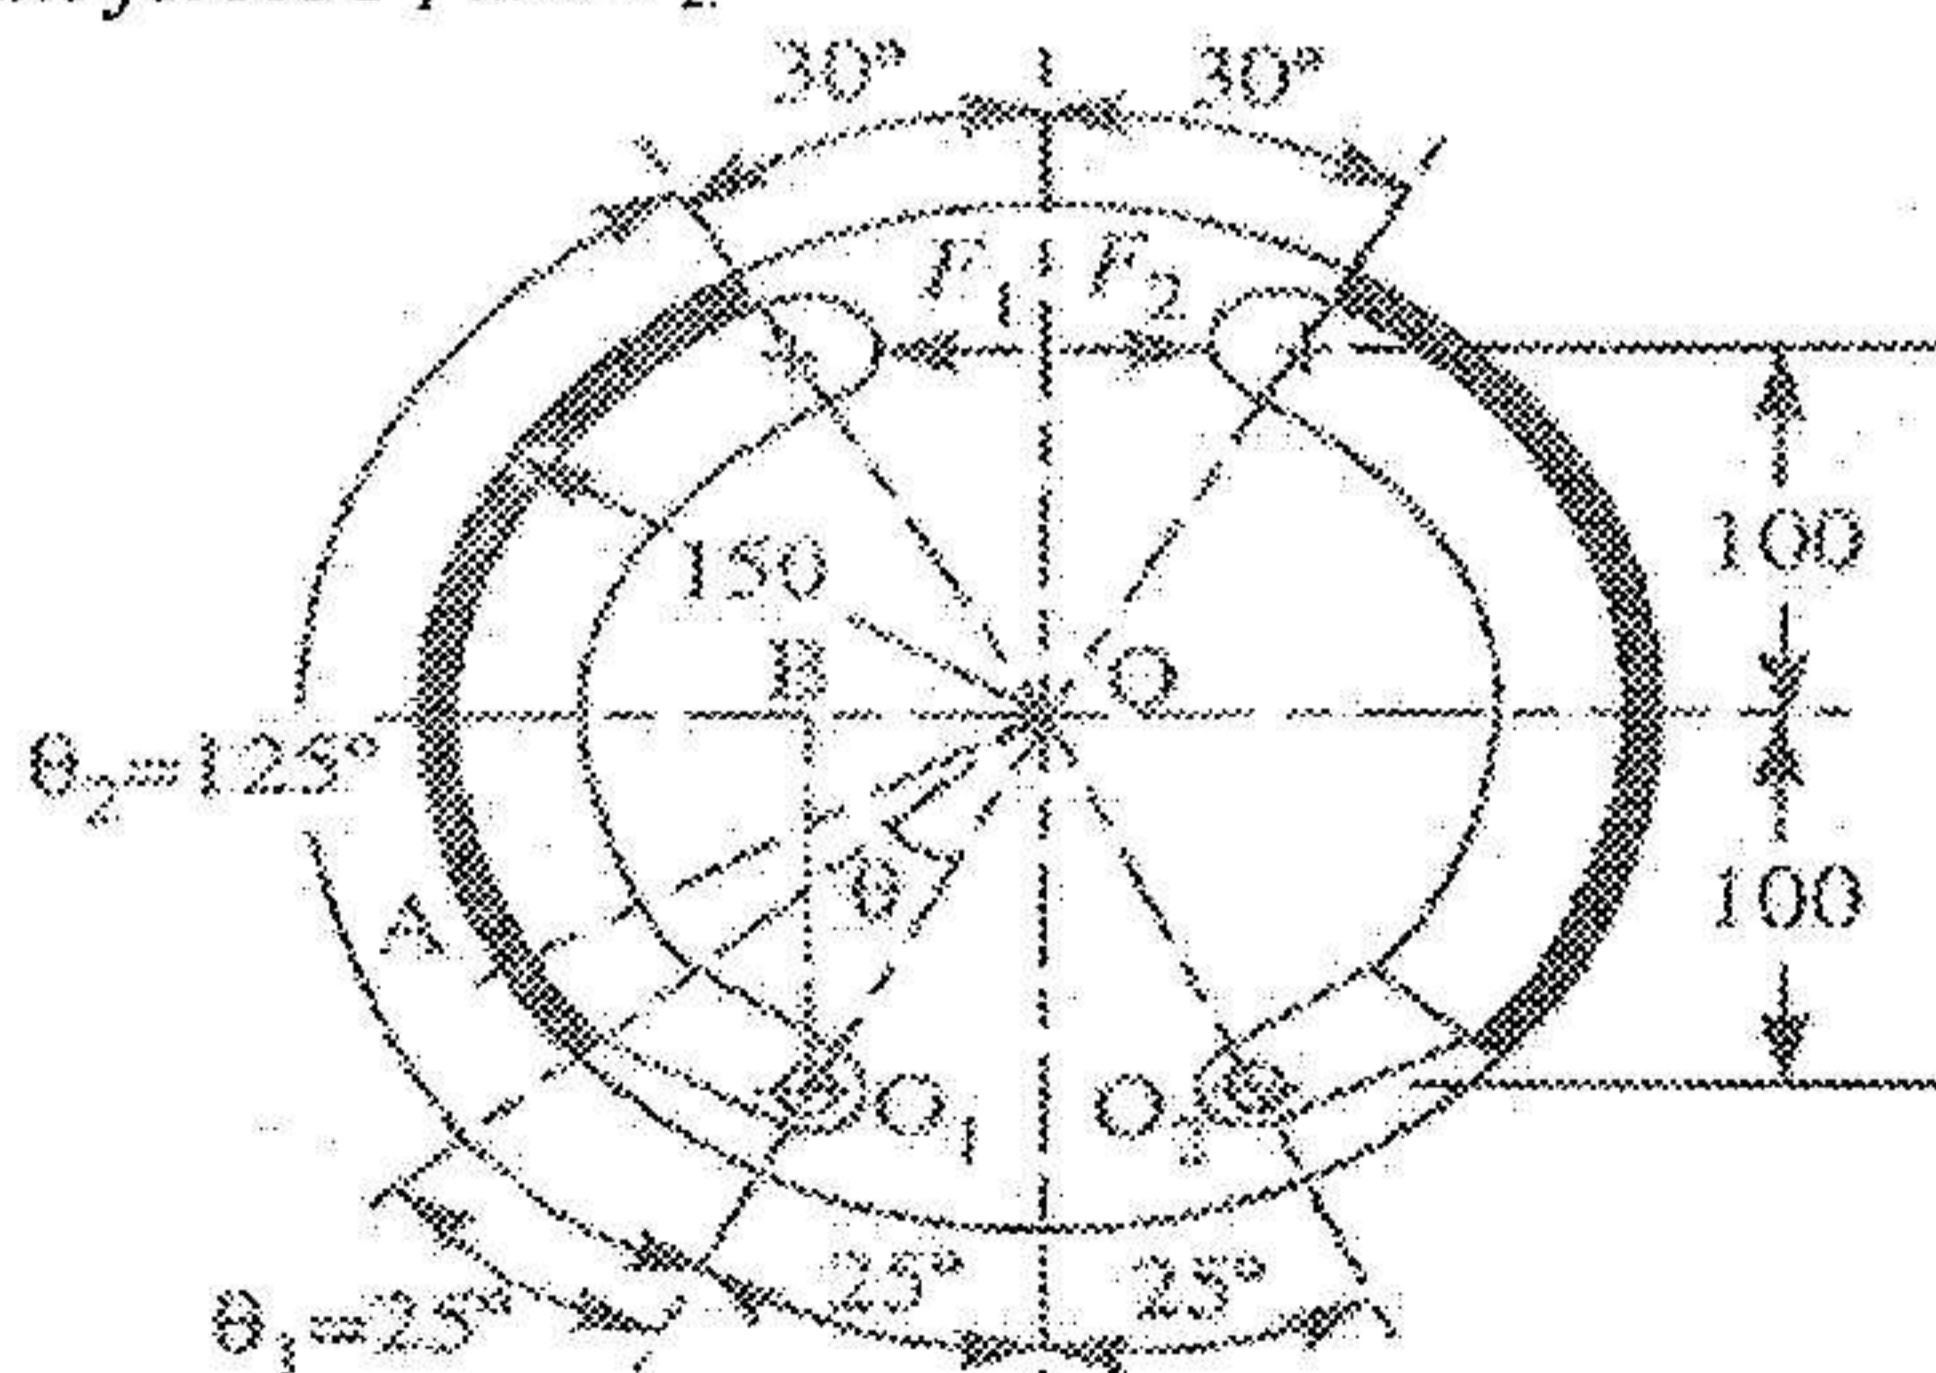

Figure-5
- (b) An internal expanding brake has the arrangement of two brake shoes which act on the internal surface of a cylindrical drum. The braking force F_1 and F_2 are applied as shown in figure-5 and each shoe pivots on its fulcrum O_1 and O_2 . The width of the brake lining is 35 mm; the intensity of pressure at any point A is $0.4 \sin\theta \text{ N/mm}^2$, where θ is measured as shown from either pivot. The coefficient of friction is 0.4. Determine the braking torque and the magnitude of the forces F_1 and F_2 .